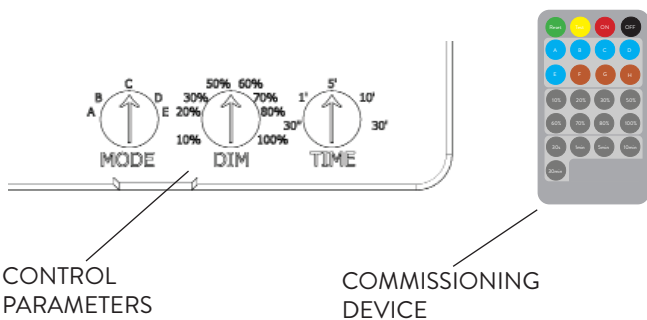

FIG. 20
- The Control Parameters are adjustable on the Sensor or by a wireless Commissioning Device. The Control Parameters allow the user to adjust the Mode (A thru E), Dimming (10% thru 100%), and Time (30 sec thru 30 min) Level (Fig. 20). The Control Modes are given in more detail in the next column.